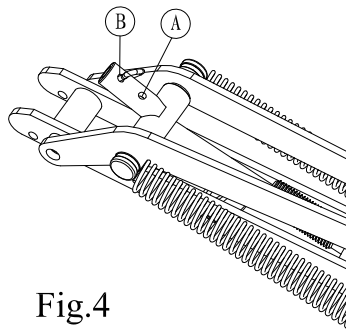

Fig.4
Push the piston rod (3) through the cylinder housing (2) into the clutch T (4). The hole in the piston rod should be placed in line with hole >>a<< in the clutch T. the hair pin (5) should then be fitted through the holes, see fig. 4.